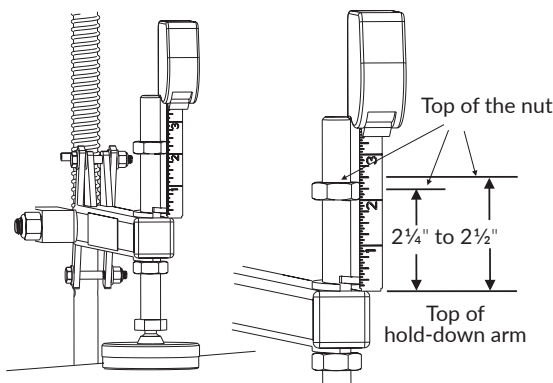

Figure 6-4
4. Adjust the top nut, so the top of the nut measures $2\frac{1}{4}"$ to $2\frac{1}{2}"$ above the top of the hold-down arm. Once the measurement has been set, DO NOT adjust the top nut or the stationary nut. *See Figure 6-4.*